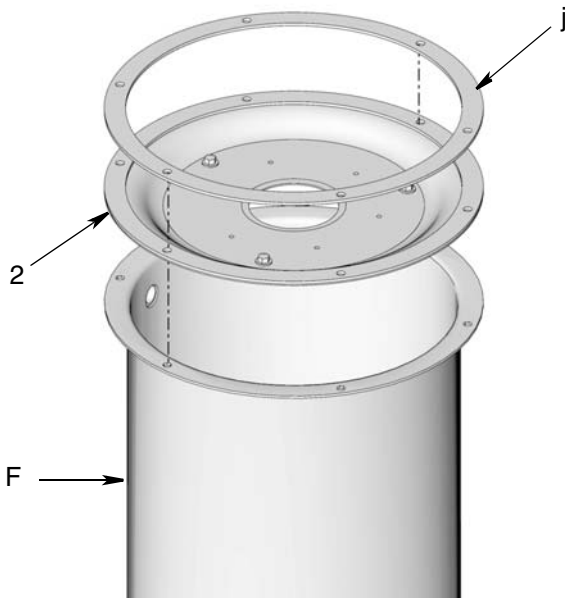

FIG. 6
1. Align diaphragm (2) on reservoir (F) (FIG. 6), matching holes around the rim of diaphragm with the holes in the top of the reservoir. Refer to FIG. 6 to determine the correct orientation of the diaphragm.
2. Install gasket (j) removed in step 6, page 5 over the diaphragm (2) (FIG. 6), matching holes in gasket with the holes in rim of diaphragm.